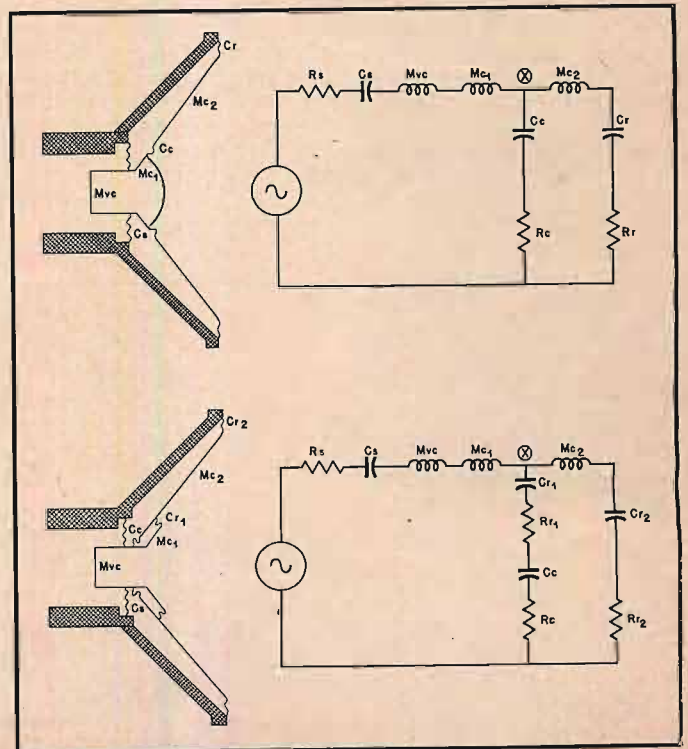

Fig. 9-5. (A), Mechanical system of a two-cone, single-voice-coil speaker and electrical analogy. (B), Variation of (A).
The principle of inserting cone corrugations for controlling break-up may be followed through in a special design which uses definite segregated vibration systems in the cone and/or voice coil. In Fig. 9-5, (A) illustrates a speaker of this design, in current commercial use, which has an aluminum dome-shaped diaphragm for high-frequency sound propagation and dispersion. At low frequencies the entire suspended mechanism vibrates as a unit, but at high frequencies the small cone and diaphragm are able to vibrate by themselves because of their compliance with the cone proper.
The reader will find that tracing the equivalent electrical circuit of this speaker system increases appreciation of the way it works. In (A) of Fig. 9-5, the magnetomotive force must always overcome the friction of the spider  $R_s$ , the stiffness of the spider, determined by  $C_s$ , the mass inertia of the voice coil  $M_{vc}$ , and the inertia of the first section of cone and aluminum dome  $M_{c1}$ . At this point, marked X on the diagram, there is a choice of path. At low frequencies  $C_c$  will have a high impedance (will remain mechanically stiff) and  $M_{c2}$  a low impedance, so that current will flow through  $M_{c2}$  rather than  $C_c$ . The current through  $M_{c2}$  will be the same as that through  $M_{c1}$ , which represents the fact that the two sections will have the same velocity and will move as one.